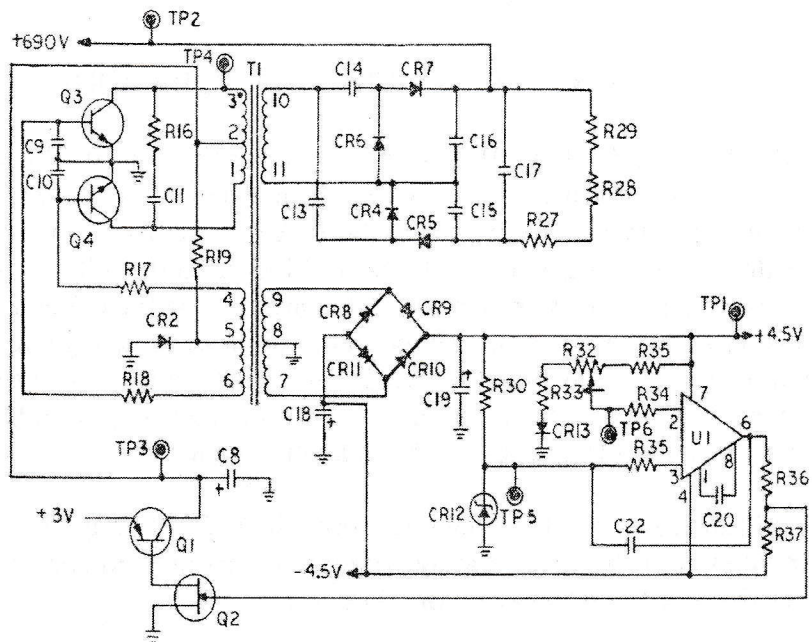

Figure 3-2. Power Supply Schematic
A. Power Supply. Refer to Figure 3-2, Power Supply Schematic. Transistors Q3, Q4, and Transformer T1 operate as a free running saturating oscillator that induces, by virtue of the transformer turns ratio, substantially larger AC voltage across the secondary windings 10-11 and 7-8-9. The AC voltage is converted to DC as follows: